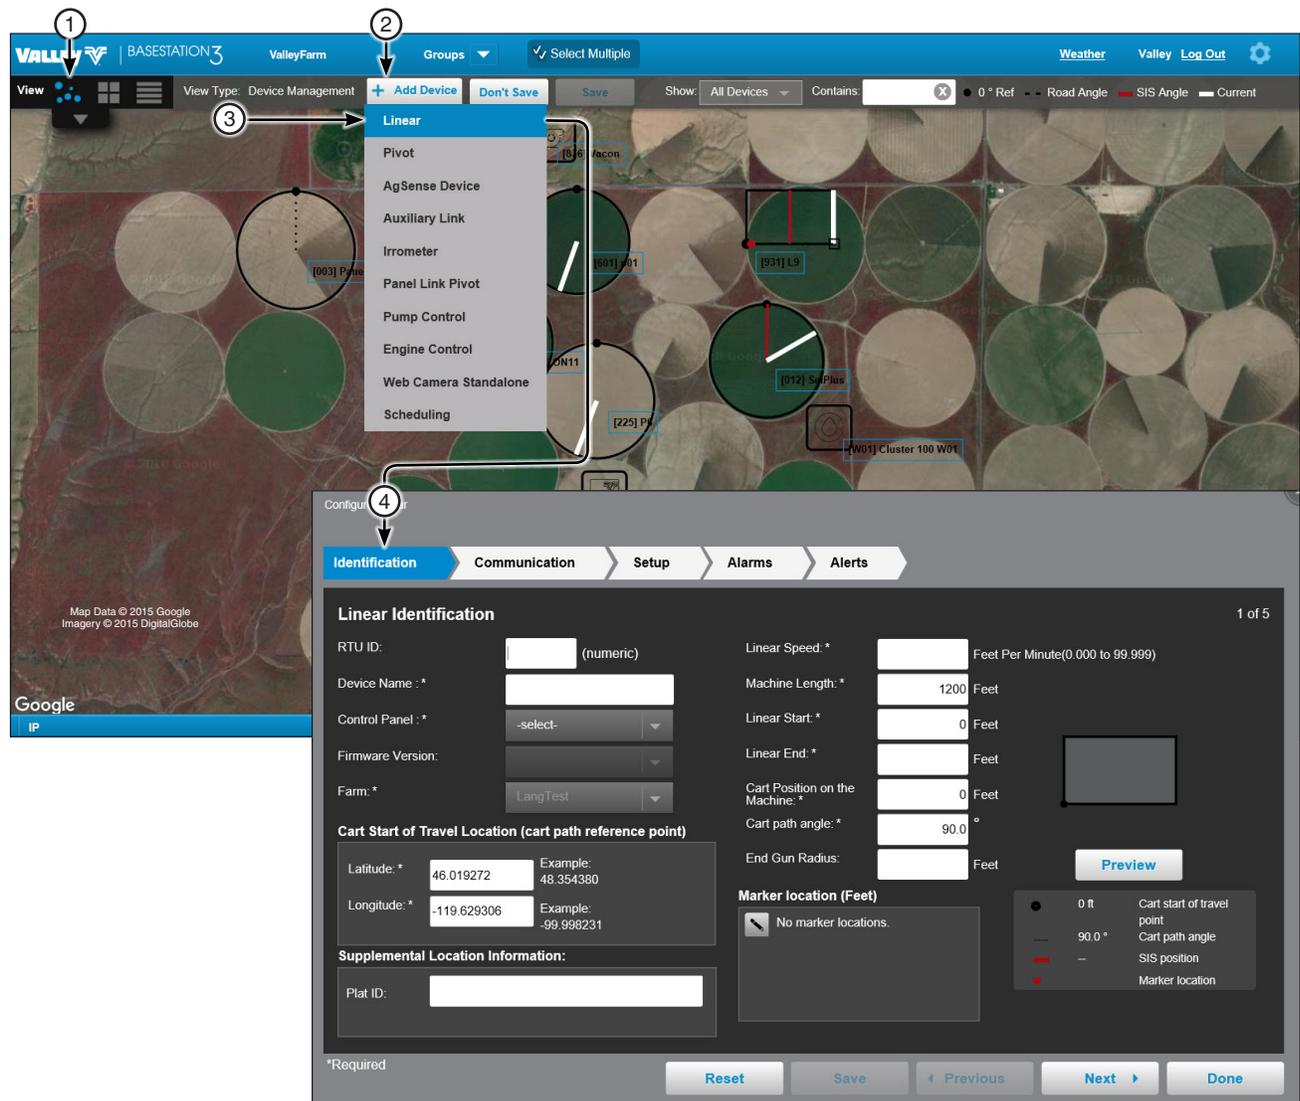

Figure 141-1 1. Map View Device Management Screen 2. + Add Device 3. Device List 4. Device Configuration
**Map View:** To add a device while in Device Management - Map View, refer to Figure 141-1 and do the following.